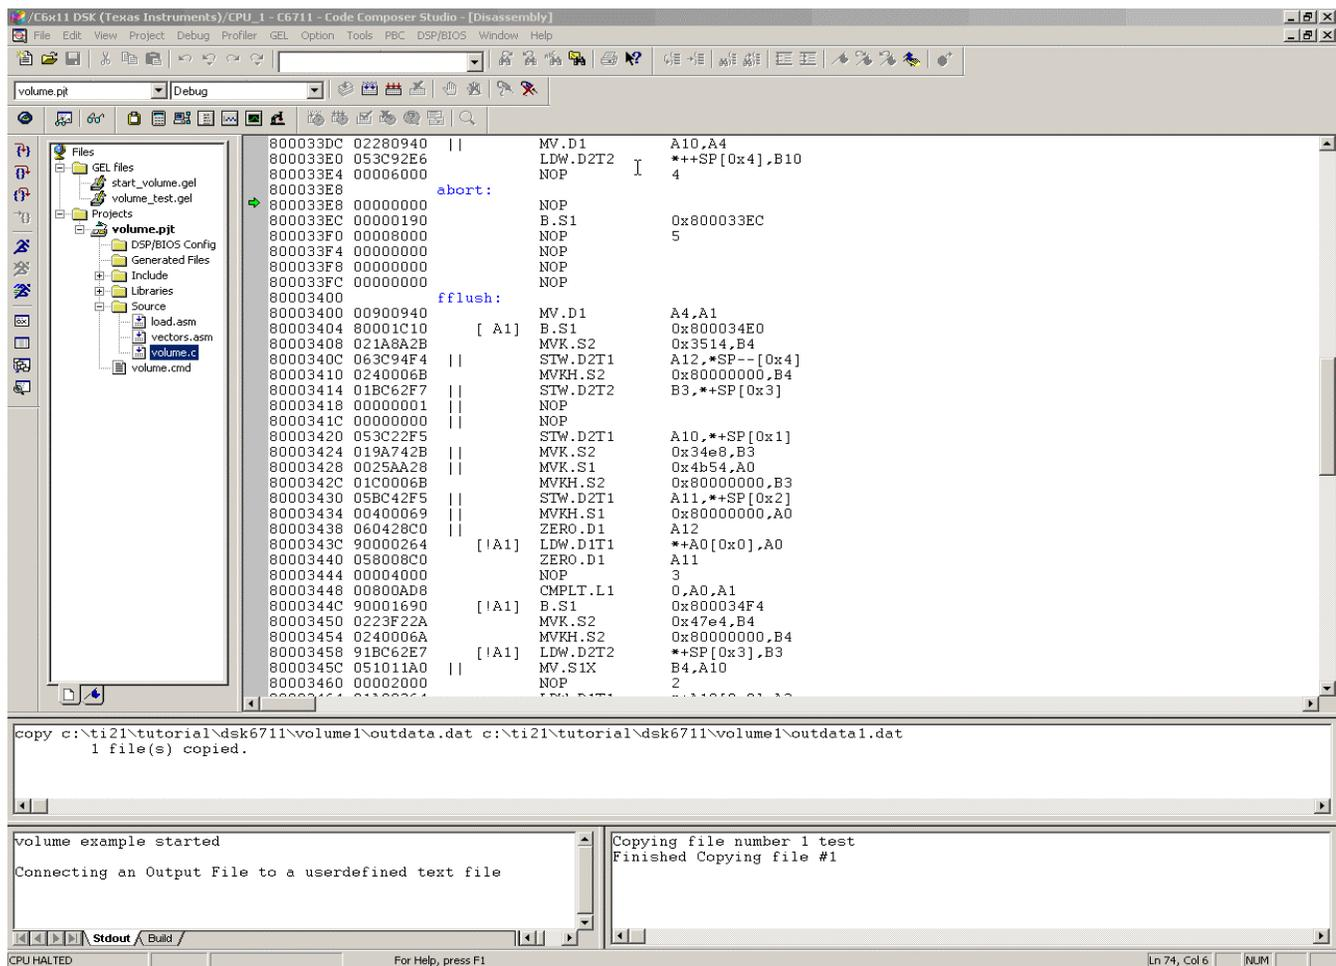

Figure 4. Resultant Output Screen of Single Vector Case
- Let's make use of GEL now to copy the output file to a user-defined data file. In the volume.c file, toggle a Probe Point on line 74 (puts("Connecting Output File to a user defined Text File\n");). From the debug menu, choose Probe Points and highlight line 74. In the probe type field, select Probe at location if expression is TRUE, and in the expression field, and type in Test_File1() and click Replace. Recall this is a GEL function that copies the output file to a user-defined file for testing purposes. Choose Debug → Run to run the application and watch the output screens to see the execution status. Your screen should resemble the screen capture in Figure 4.